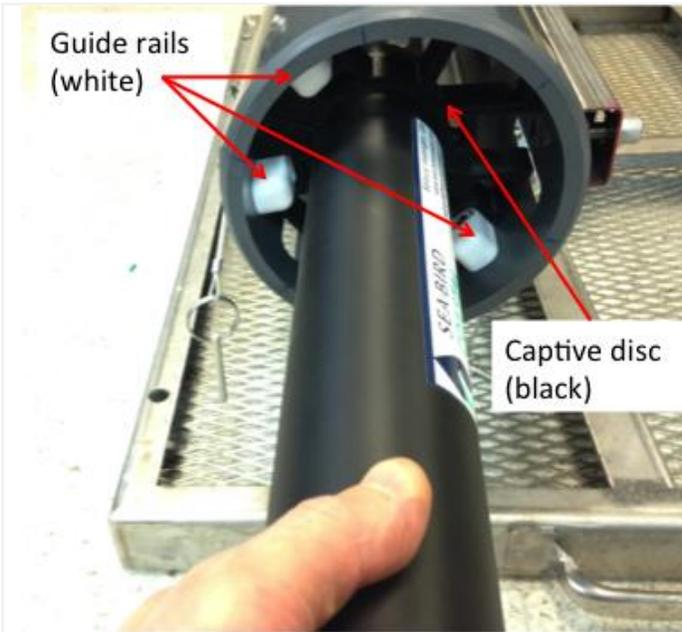

Figure 78. Remove Sensor from PVC Enclosure
**STEP 8** | Slide the sensor assembly out of the enclosure by grabbing onto the wiper housing at the top of the sensor (**Figure 78**). The color of the captive discs may vary, but the design and material are the same across stream sites.